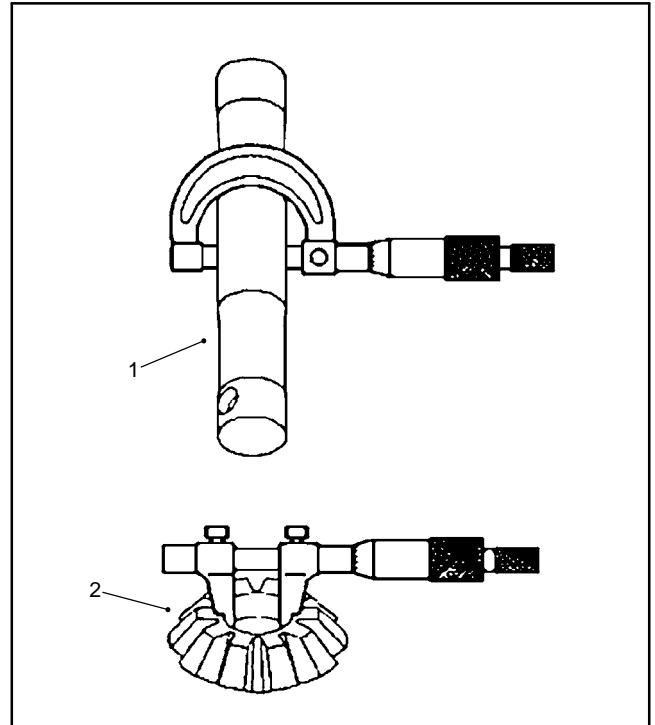

Figure 38
2. Measure the differential pinion shaft O.D. and the pinion gear I.D. to determine the pinion shaft to pinion gear clearance (Fig. 38). Replace components as necessary.